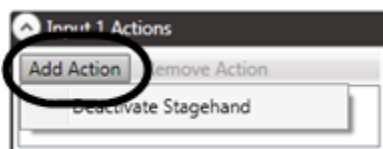

Figure 185
2. In the **Input (1, 2, 3 or 4) Action** section of the **FX Editing Pane**, click the **Add Action** button (Figure 185).